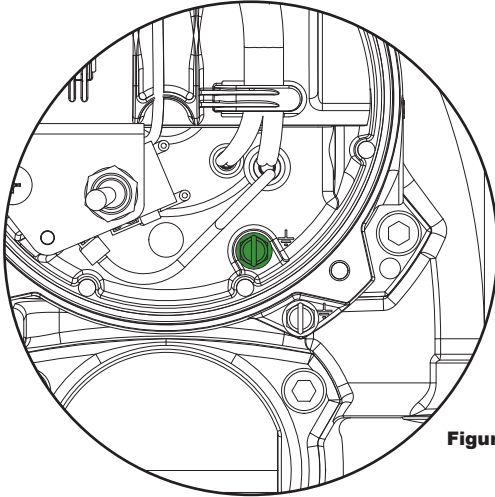

Figure 6
2. Attach ground wire using the green ground screw located inside the junction box (see Figure 6). The external bonding connection is only a supplemental bonding connection where local authorities permit or require such a connection.